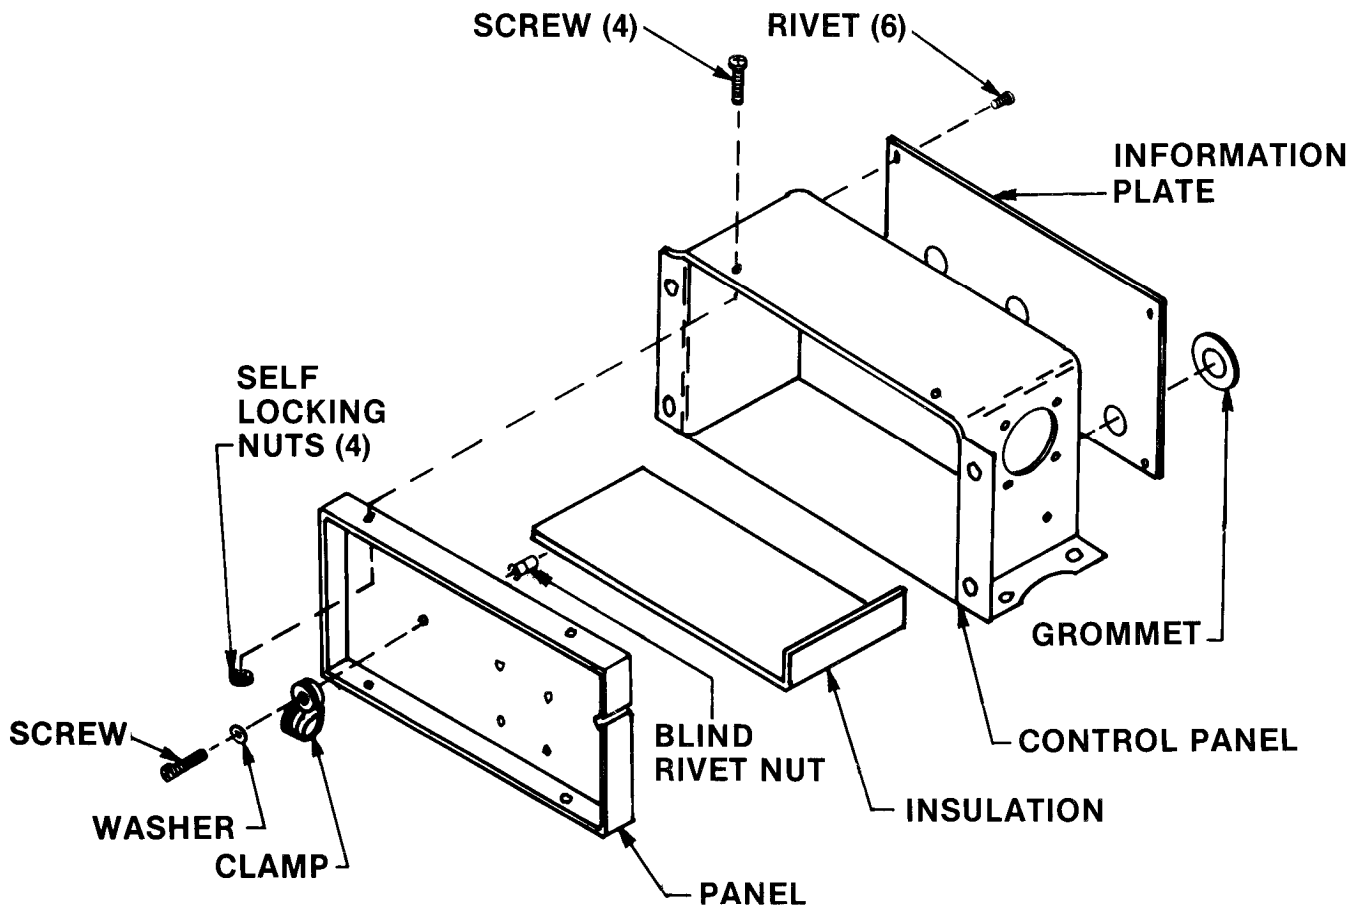

Figure 4-46. Control Panel Housing
(1) Using multimeter and switch position chart shown on figure 4-46, check continuity at contacts indicated. With switch position closed, continuity should be indicated. With switch position open, no continuity should be indicated. Check between each set of contacts and at each switch position.